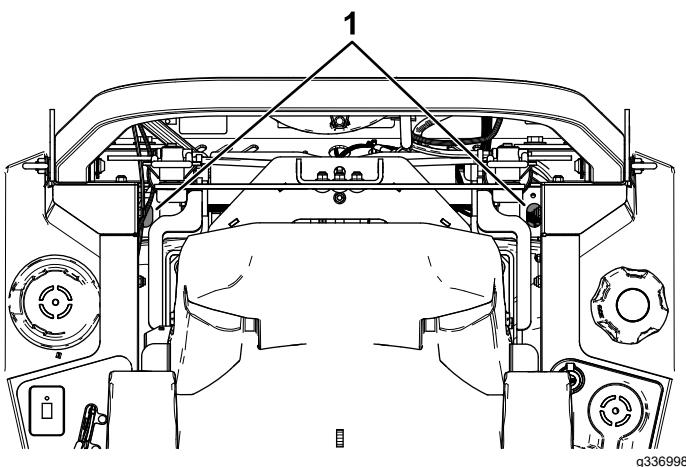

Figure 80
- For ZT 4400 Hydros, use an extension and 7/16-inch socket, access the vent plug from the top of the machine through the holes near the roll-bar mounts (Figure 80).